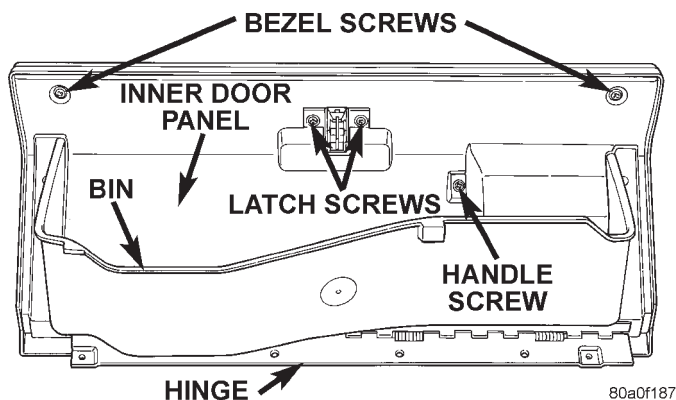

Fig. 19 Glove Box Components
- (1) Open the glove box.
- (2) Remove the two screws that secure the bezel to the glove box near the top of the glove box inner door panel (Fig. 19).